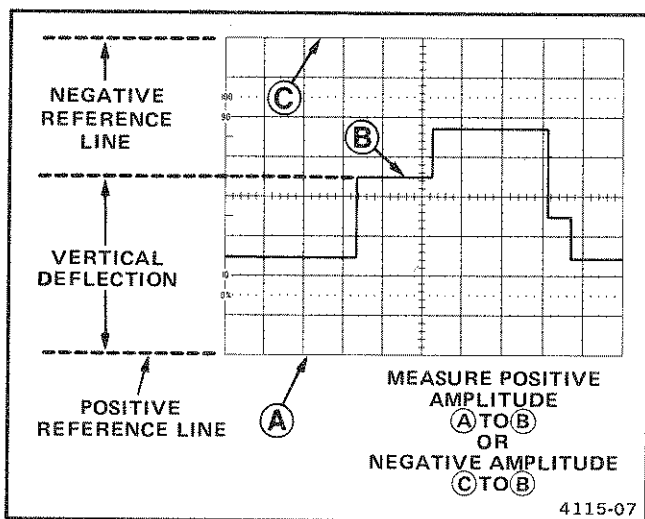

Figure 12. Instantaneous voltage measurement.
11. Measure the divisions of vertical deflection between the reference line and the desired point on the waveform at which the dc level is to be determined (see Figure 12).
**EXAMPLE:** The measured vertical deflection from the reference line is 4.6 divisions (see Figure 12), the waveform is above the reference line, the VOLTS/DIV switch is set to 2, and a 10X attenuator probe is being used.